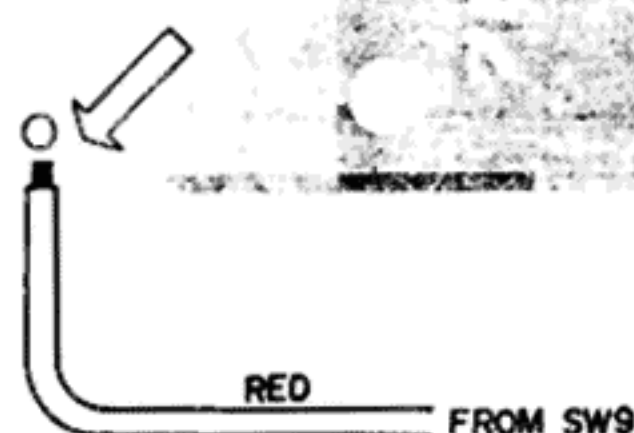

Fig. 25
* Because bias leak is influenced by this measurement, disconnect the wire indicated by the arrow mark in Fig. 25.